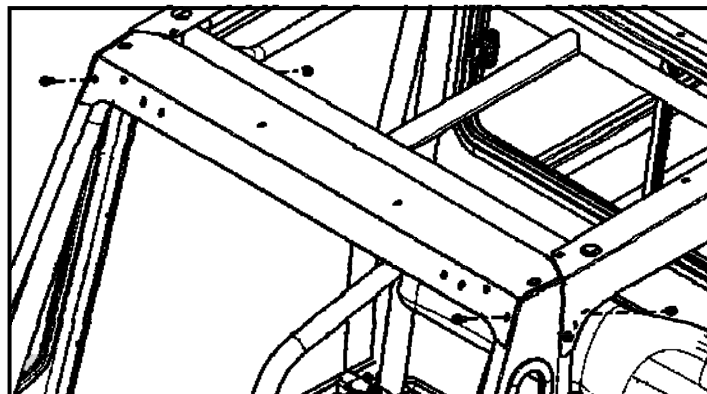

Figure 9.1: Windshield support
- (2) 5/16-18 Flanged nut
With an assistant, place the windshield support onto the upper front of both A-pillars and secure with one (1) 5/16 x 3/4" bolt and nut per side. Leave bolts loose, (**Figure 9.1**).